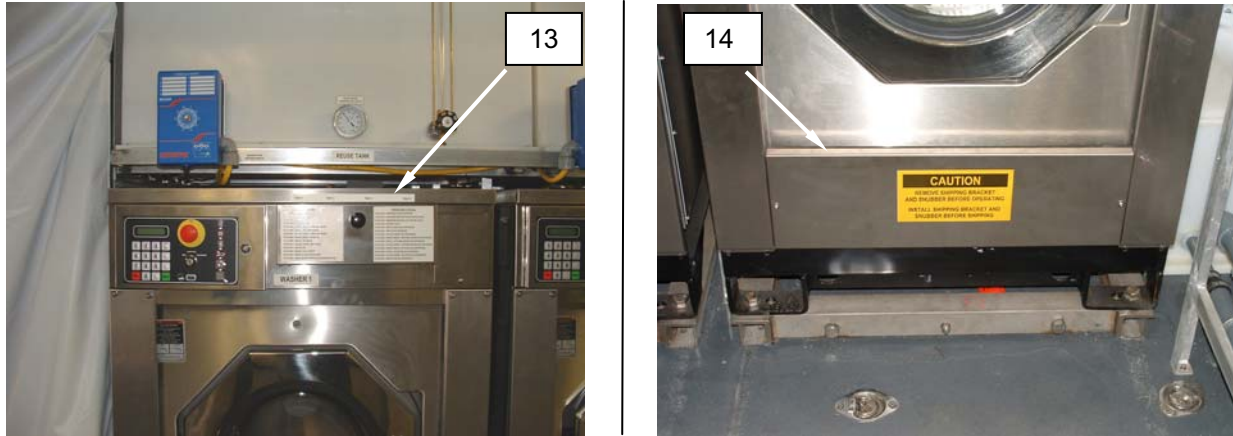

Figure 7. Open Soap Trays and Remove Kick Panels.
14. Open the soap trays (**Figure 7, Item 13**) on both washers.
15. Have unit maintenance remove the kick panel (**Figure 7, Item 14**) from both washers.